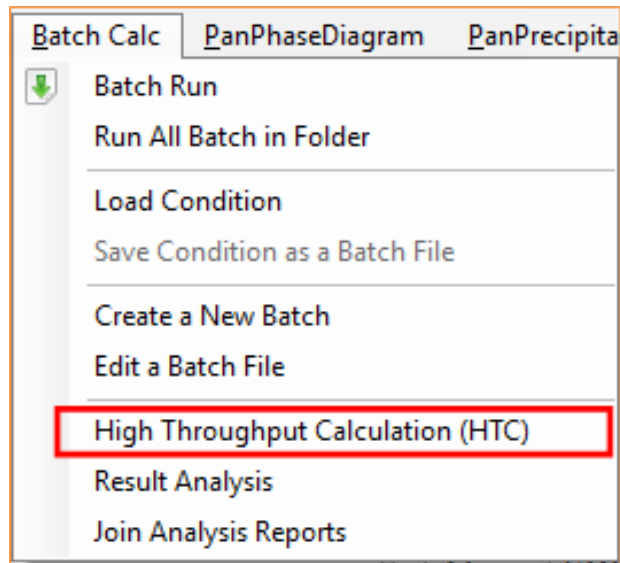

Figure 1.23.1: HTC function under the “Batch Calc” menu
- Choose the HTC function from the **Batch Calc** → **High Throughput Calculation (HTC)** (as shown in Figure 1.23.1).